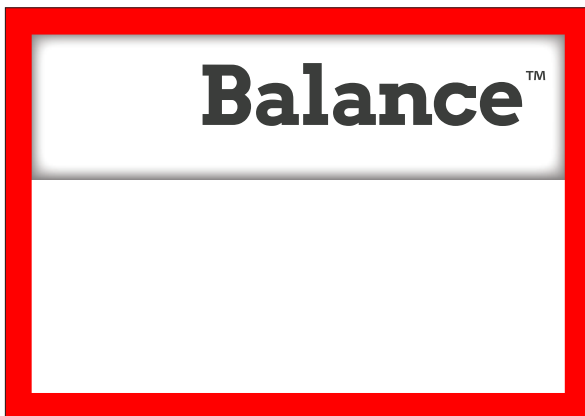

Figure 37 - Push To Correct For Excessive Residual Unbalance
1. After correcting for dynamic unbalance, and excessive residual unbalance is detected over tolerance, then a PUSH icon button will display on the dashboard (figure 37). Press the button.